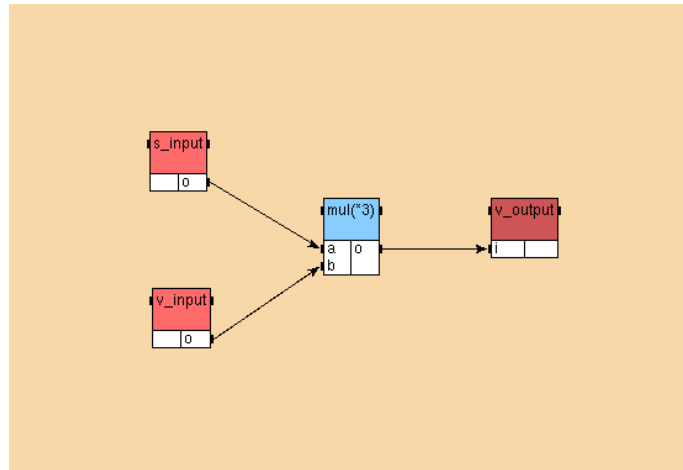

Figure 4.2: `AlgorithmMain1` of the **Example 4**
- create dependencies between the references, in order to obtain the main algorithm (*cf.* figure 4.2);